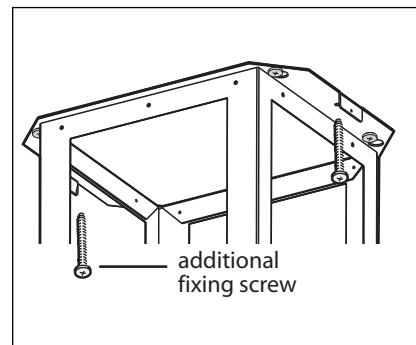

FIG.8
8. Make final angular adjustment to unit at ceiling if necessary, then finish installation adding two fixing screws. See Fig. 8.